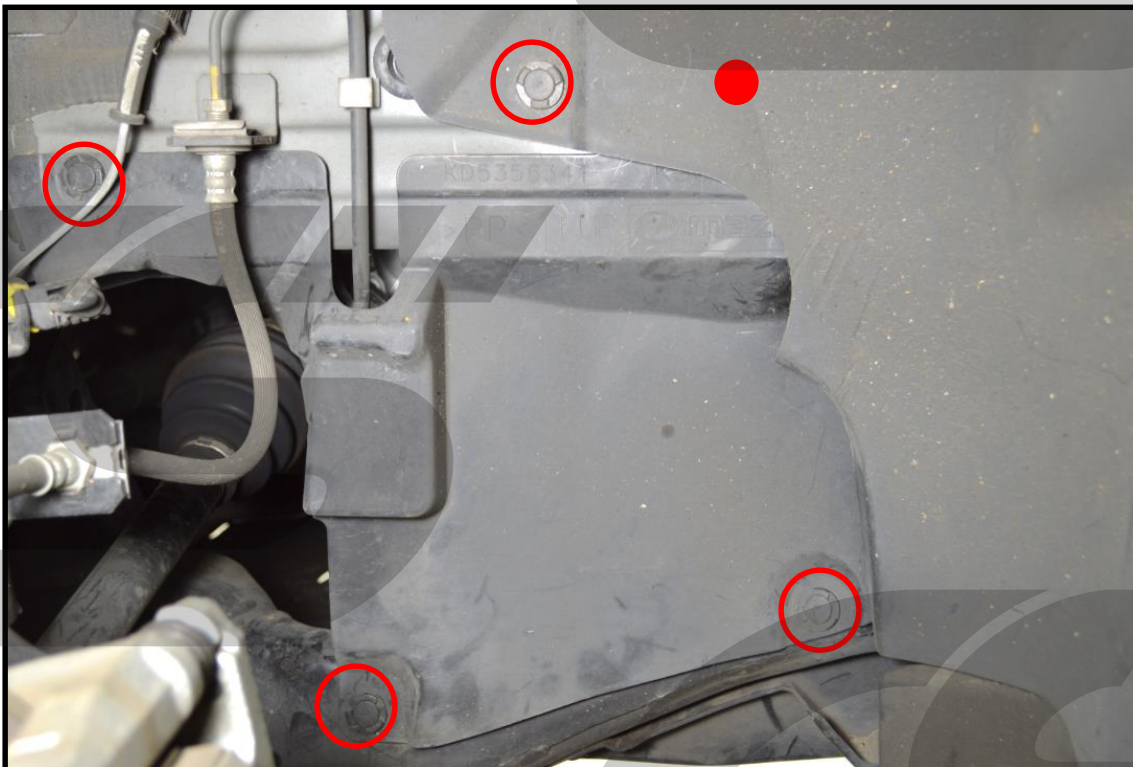

Figure 2a
- a) **Remove the cover to gain access to the pulley.** Use a flathead screwdriver to pop out the plastic clips **circle in red** in **Figure 2a**. There is also a clip located at the **red dot**.